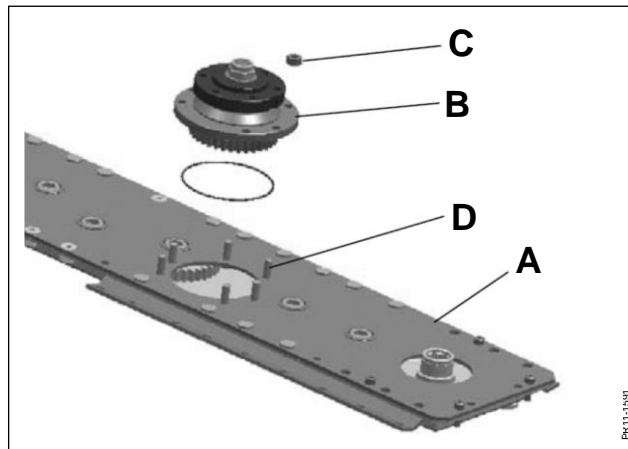

Fig. 5-20
**Fig. 5-20** When the hub is mounted the surface of the cutter bar **32** and the underside of the hub **36** must be clean and greased with a thin layer of grease. The nuts **30** must be locked with Loctite 243 on the threaded pins **22** and tightened to **92 Nm** (9.2 Kpm). On the 6-bolt cutter bar all discs are the same. There is no special input disc.